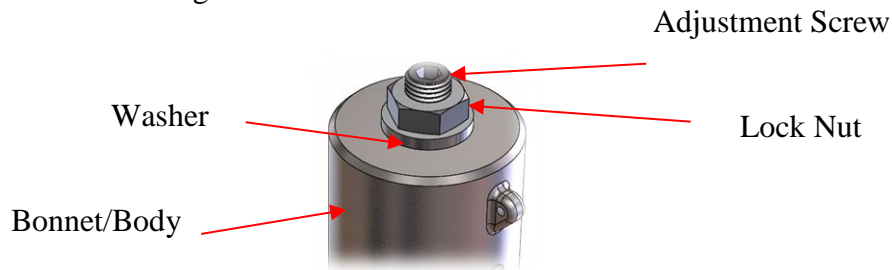

Figure 11: Upper Bonnet Components
2. Loosen the lock nut. See Figure 11.